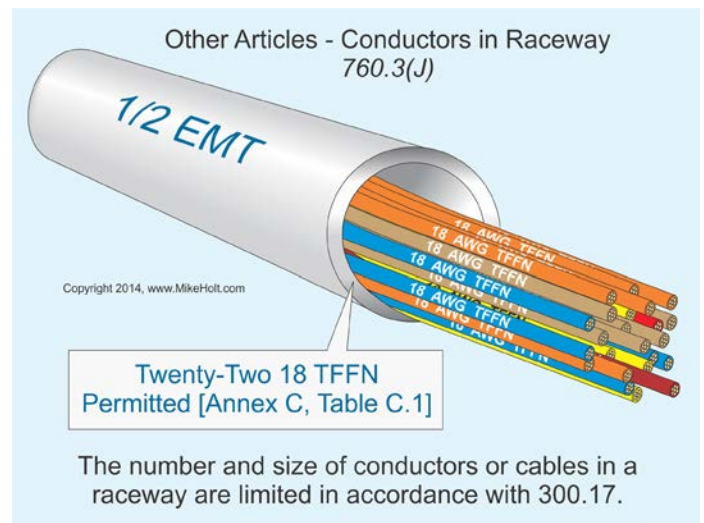

Figure 760-6
**Question:** How many 18 TFFN fixture wires can be installed in trade size 1/2 electrical metallic tubing? **Figure 760-6**